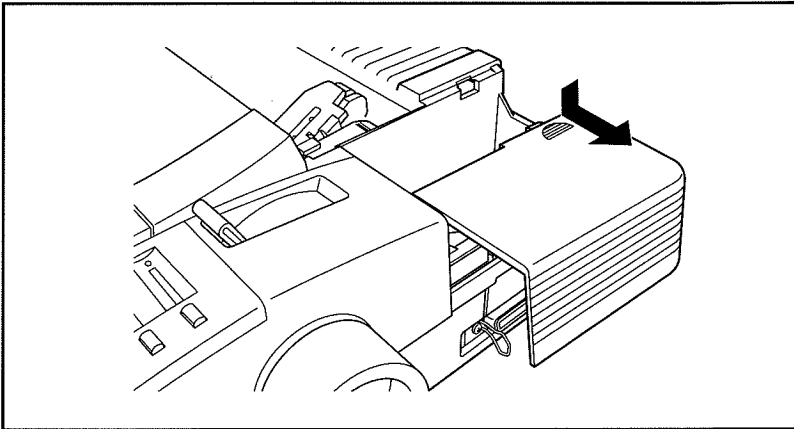

Figure A-2. Opening the serial interface cover.
2. Figure A-2 shows the serial interface cover, which is on the right side of your printer, near the rear. You must open it to install the serial interface. To open the cover, simply slide it to the right.